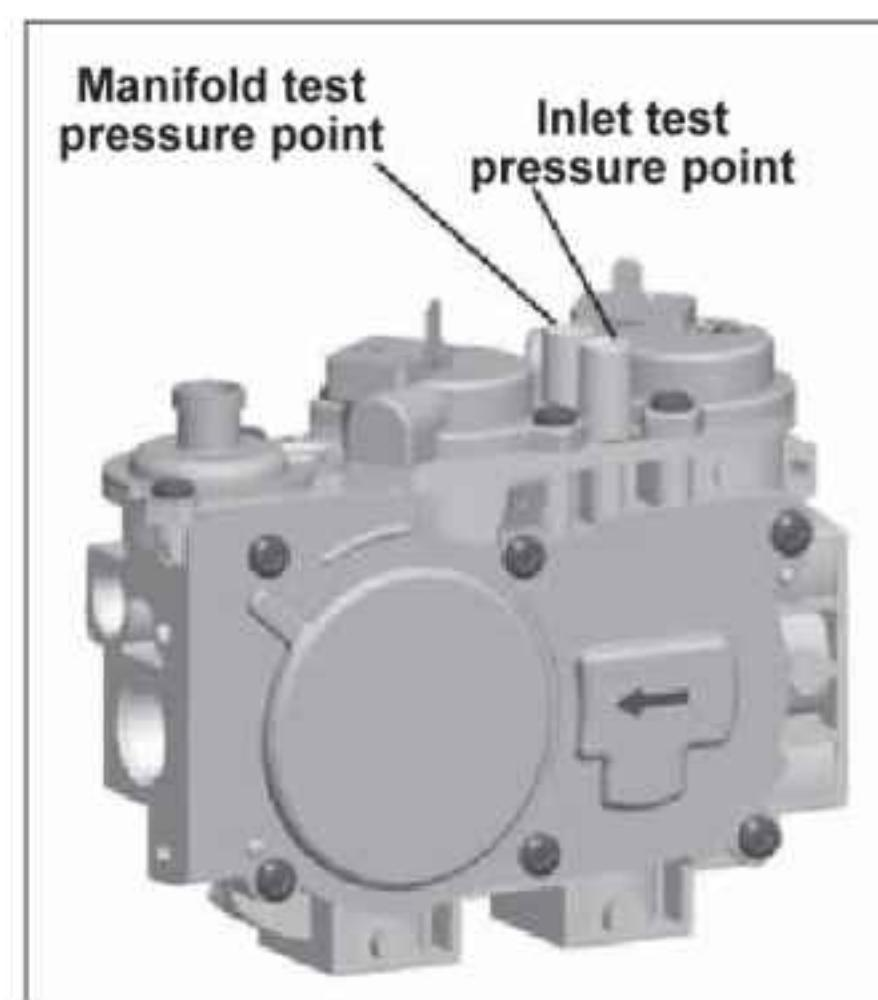

Figure 59: Pressure Test Points.
- b. Place a  $\frac{1}{4}$ " silicone tube over either pressure port on the valve (refer to Figure 59). Attach the tube to a mono meter.